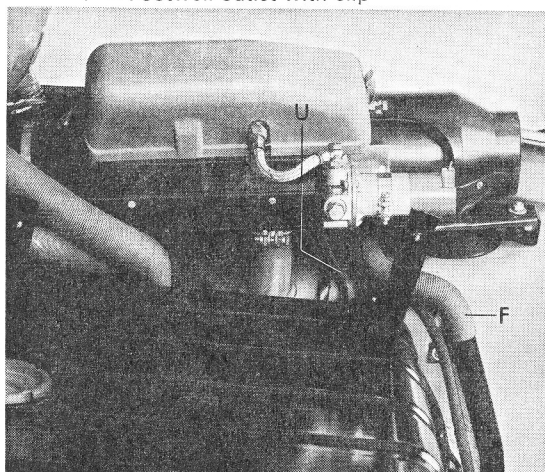

Figure 16
- 23 – Push overflow hose on to overflow pipe (see Figure 16). See note 2 on page 4.20/2–1.
- 24 – Install flexible pipe on combustion air connection on heater and ensure that pipe is tight (see Figure 16).